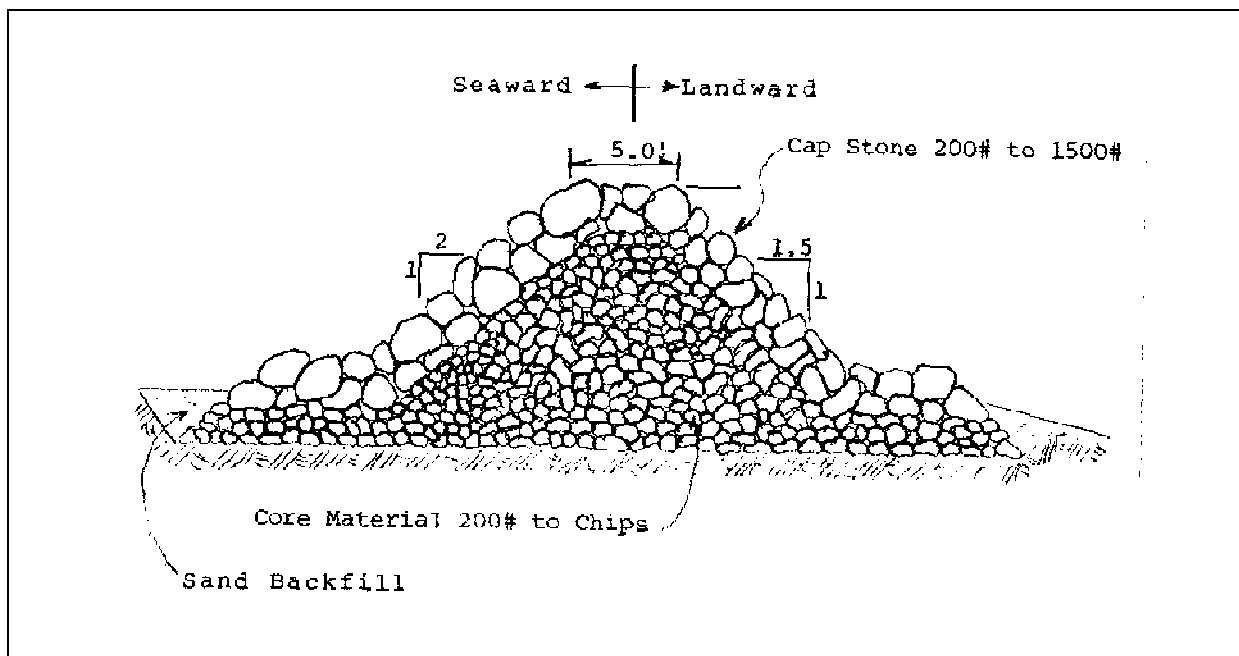

Figure C-8. Rubble-mound seawall cross section
c. *Cross section of a rubble-mound seawall.* Figure C-8 shows the features of the Fernandina Beach seawall, which is typical of this type of construction.